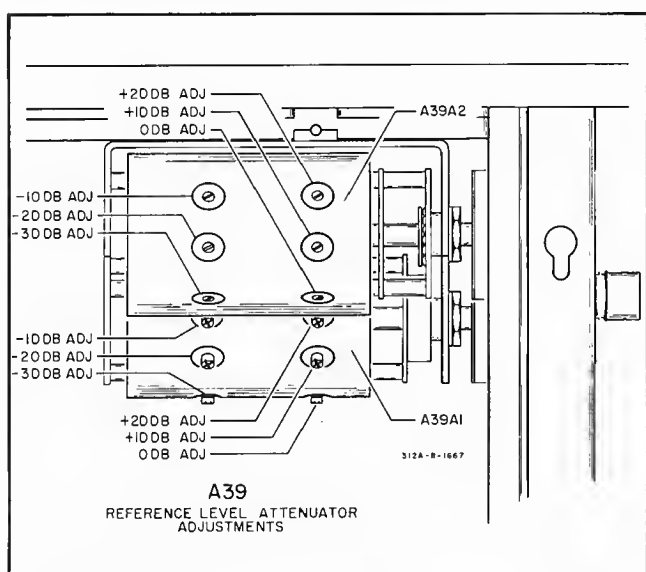

Figure 5-23. Reference Level Attenuator Adjustment Location.
d. Adjust the “- 30” capacitor on A39A2 (see Figure 5-23) for an oscilloscope display which is the same as the - 40 dBm position (A33 Adjustments).